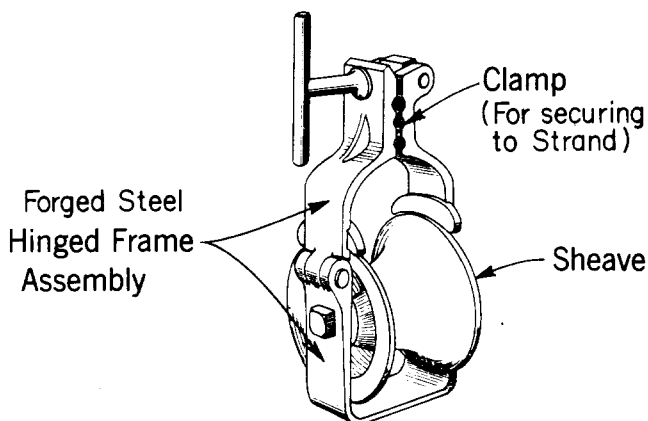

Fig. 2—H Cable Block
3.03 H Cable Block: The H cable block (Fig. 2) supersedes the one-sheave cable block and is used to pull cable toward or away from corner poles and any other location where a single block is required.